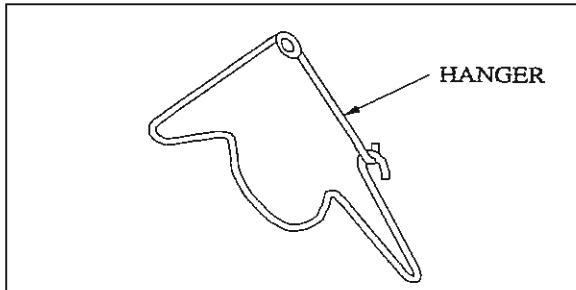
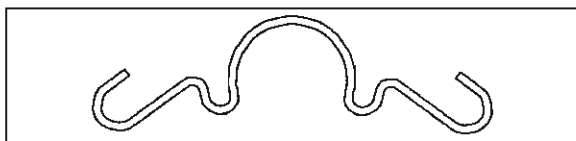

Figure 1-4
Figure 1-5
- Each heater comes equipped with the necessary hangers (Figure 1-4) for hanging. The DTHS 20 requires three hangers, the DTHS 30 four hangers, the DTHS 40 five hangers, and the DTHS 50 six hangers. Each heater also comes with one reflector center support (Figure 1-5) for the first 10 ft. section of reflector and one DTHS installation kit.